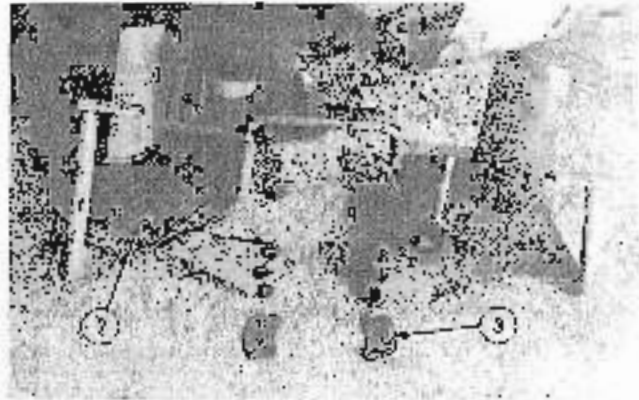

FIG. 4
(2, Fig. 4) Retain the (2) tension wear plates for re-assembly.
(3, Fig. 4)